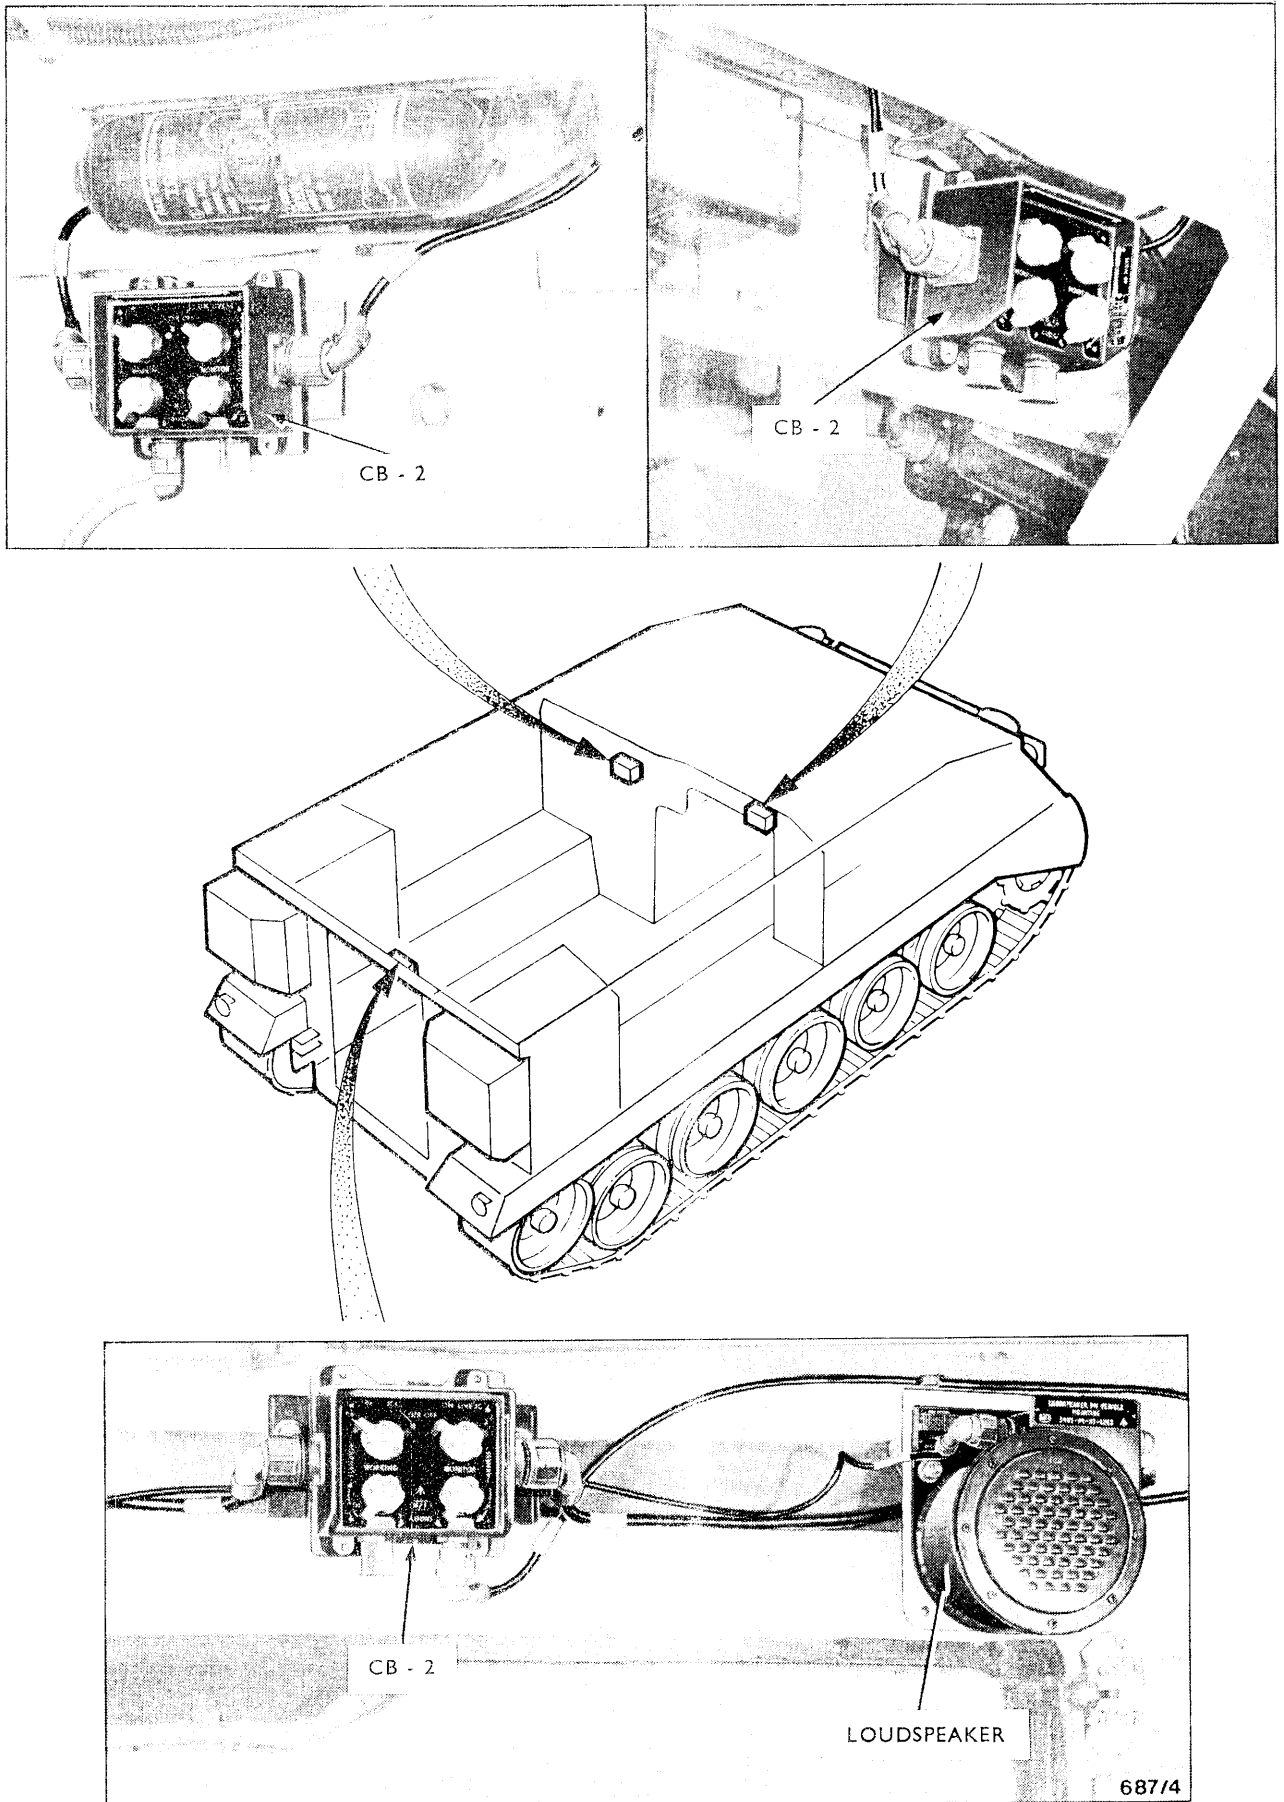

Fig 4 Location of Additional Equipment for Command Role
- a. Three additional Crew Boxes 2-Set (CB-2), located as shown in Fig 4, which are connected in place of the jumper leads on the basic harness.
- b. An additional loudspeaker is mounted above the LH side of the rear door (Fig 4) and is connected to the existing AAFL.